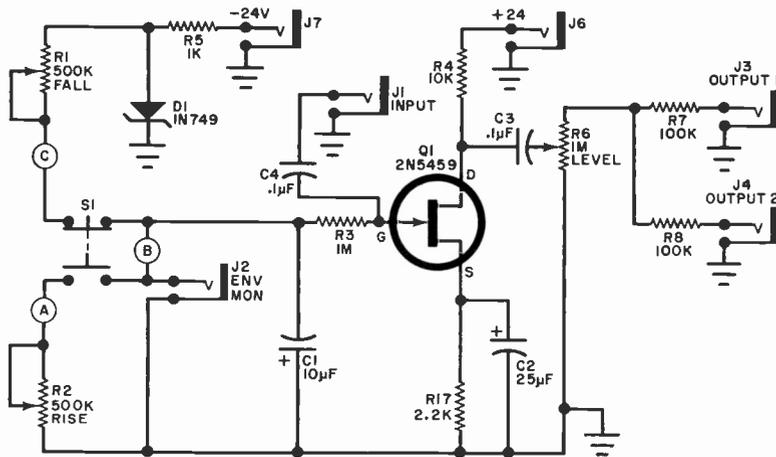

Fig. 2. Fall and rise times of the envelope are controlled by R1 and R2, respectively; on time is determined by the time S1 is in alternate position.
Fig. 2. At right is shown actual size etching/drilling guide for fabricating printed circuit board. When installing components on circuit board (see below), carefully orient transistors and IC1.
for which are shown in Fig. 2. Be careful to orient the transistors and integrated circuit properly on the board before soldering them to the foil pattern. Use a low-wattage, fine-pointed soldering iron and work carefully to avoid solder bridges between closely spaced foil conductors.
**Theory of Circuit Design.** The schematic diagram of a strictly manual version—which can be used where economy is important and complexity is unimportant—is given in Fig. 2. Field effect transistor  $Q1$  operates as a voltage-controlled amplifier where the gain of the stage is a function of the magnitude of the bias voltage. Applying a negative bias to the gate of  $Q1$  allows the stage to conduct until at about  $-4$  volts bias,  $Q1$  ceases to conduct current from source to drain. This cutoff action is the key to envelope generation.